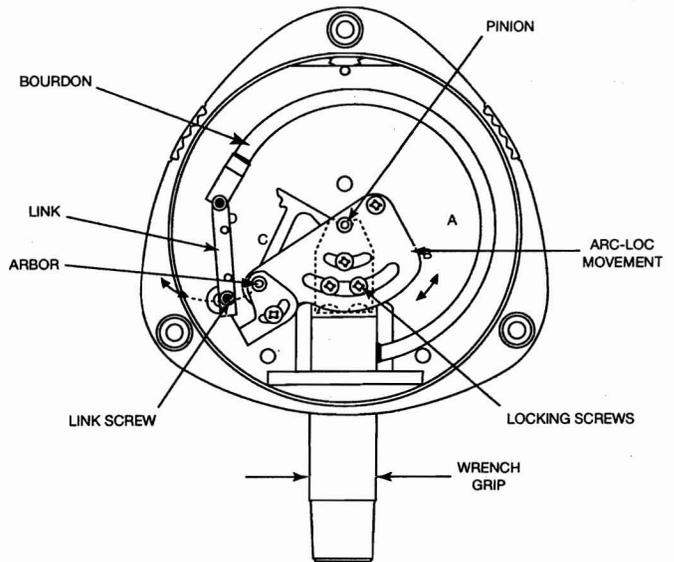

FIGURE 3
2. Correction for range errors is made by moving the link screw in the slot of the segment tail (see **Figure 3**). The link screw is accessible from the back of the case after having removed the pressure relieving back. If the pointer travel is slow, i.e. less than full range when full scale pressure is applied and the errors are increasingly minus, loosen the link screw and move it in the direction "C" toward the segment arbor. Retighten the screw and test again. If the pointer travel is fast, i.e. more than full range and the errors are increasingly plus, move the screw away from the arbor in the direction "D".
movement. Loosen the movement locking screws (see **Figure 3**) which are accessible after having removed the pressure relieving back. If the pointer travel is too fast at the beginning of the scale and too slow at the end, i.e. errors are first increasingly plus and then decreasingly plus, rotate the ARC-LOC movement in the direction "A". If the pointer travel is too slow in the beginning of the scale and too fast at the end of the scale, i.e. errors are first increasingly minus and then decreasingly minus, rotate the movement in the direction "B". When the adjustment is complete, securely tighten all three screws.